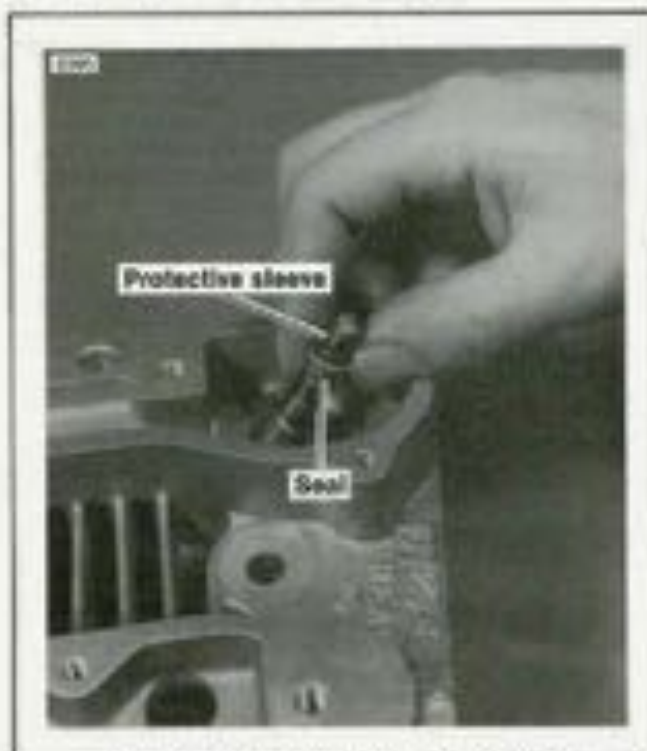

Figure 3-14. Installing Valve Guide Seal
6. See Figure 3-14. Place a protective sleeve over the valve stem keeper grooves. Coat the sleeve with oil and place a new seal over the valve stem. If the seal is installed without using the protective sleeve, the seal will be damaged.